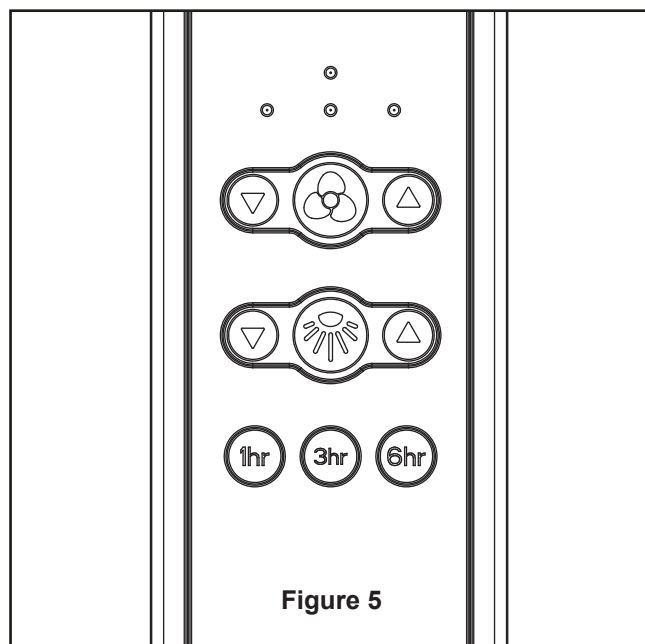

Figure 5
- ☐ 5. Assemble the LED kit to the housing assembly using the two key slots. Replace the previously removed screw and securely tighten all three screws. (Figure 5)
4. After connections have been made, the wires should be spread apart with the grounded conductor and the equipment-grounding conductor on one side of the outlet box and the ungrounded conductor on the other side of the outlet box, then turn leads upward and carefully push leads into the outlet box, with the white and green leads to one side of the box and the black leads to the other side. (Figure 5)
5. Remote functions: (Figure 5)